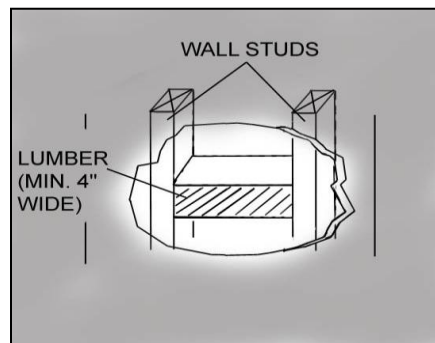

Figure 14
- Using references on Table 2 and measurements on Page 22-23, decide the level of the lumber. Refer to Figure 14.